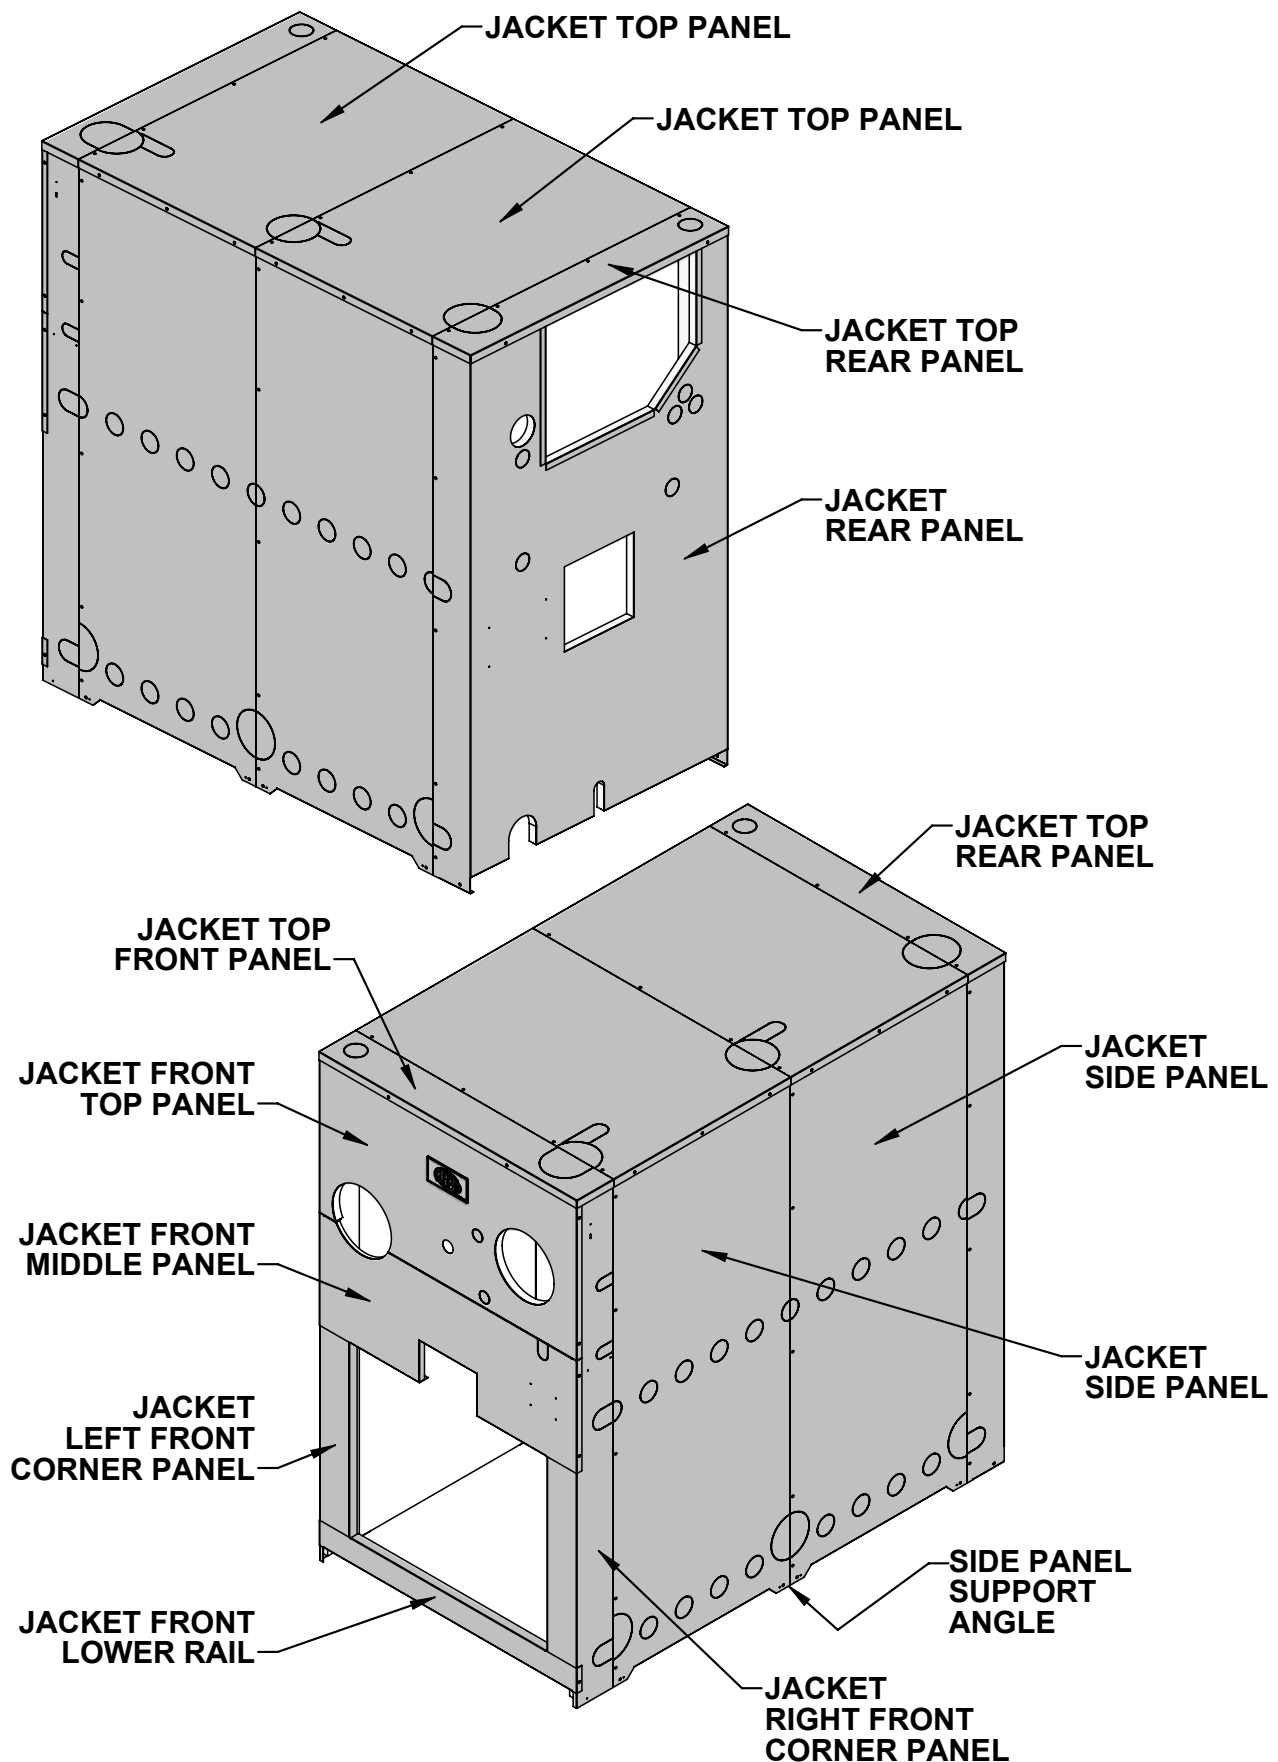

Figure 4.2: Jacket Assembly
1. See Figure 4.2 for details.